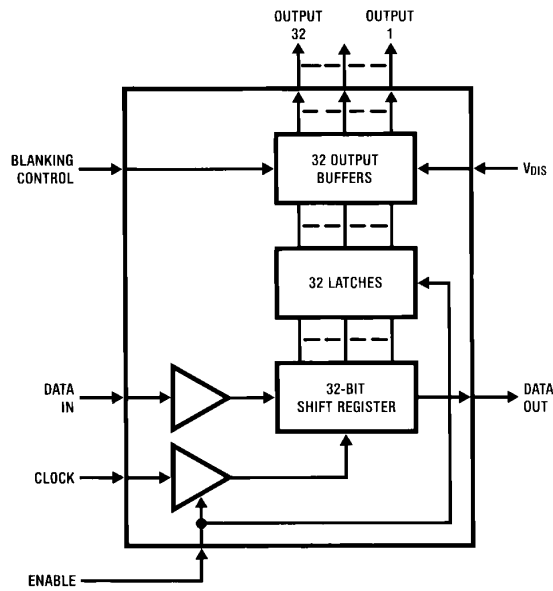

FIGURE 1
This product is specifically designed to drive multiplexed or non-multiplexed high voltage alphanumeric or dot matrix vacuum fluorescent (VF) displays. Character generation is done externally in the microprocessor, with a serial data path to the display driver. The MM58421 uses three signals, DATA IN, CLOCK and ENABLE, where ENABLE acts as an external load signal. Display blanking can be achieved by means of the BLANKING CONTROL input, and a logic '1' will turn off all sections of the display. A block diagram of the MM58241 is shown in Figure 1.